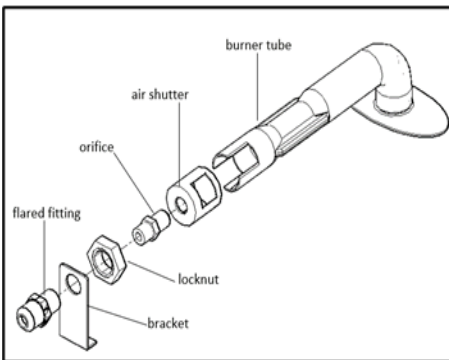

FIGURE 5
- ii. Remove the #48 (LP) orifice from the flared fitting and replace with the #30(NG) orifice supplied in content bag. **Figure 5**